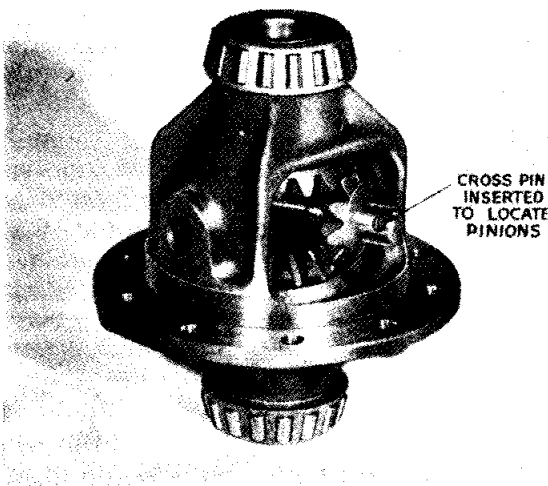

Fig. 29 Location of planet gears for entry into the differential casing.
- (xv) The crown wheel carrier is now removed from the axle centre casing so that the sun gears, planet gears and thrust washers can be assembled, the cross pin being used to locate the two planet gears with their respective thrust washers temporarily in position (Fig. 29). Subsequently, the planet gears are